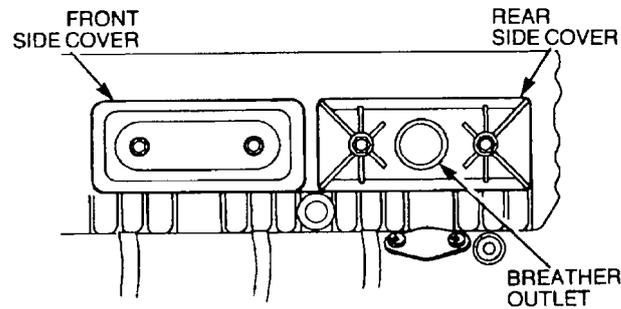

Figure 53 Installing the Side Cover
- eee. Place new gaskets on the side cover plates (if necessary use a suitable sealant to hold the gaskets in position). Position the cover plates on the engine block, ensuring that the plate with the engine breather outlet is positioned to the rear of the engine (Figure 53). Install the retaining bolts and tighten them to 16 to 25 N.m (12 to 19 lbf.ft).